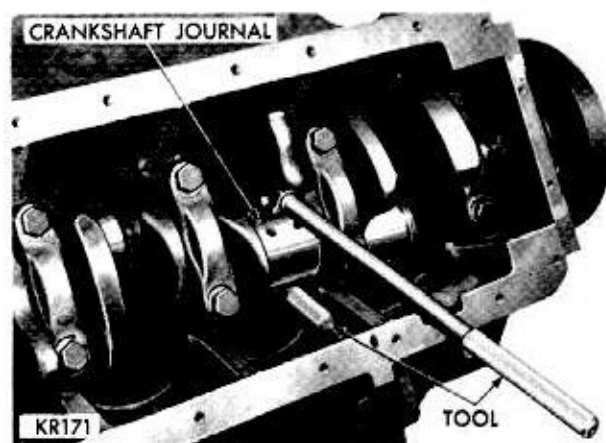

Fig. 45—Installing Connecting Rod
(1) Before installing pistons, rods, and rod assemblies in the bore, be sure that the compression ring gaps are staggered so that neither are in line with oil ring rail gaps.
(2) The oil ring expander ends should be positioned toward the outside of the "V" of the engine. The oil ring rail gaps should be positioned opposite each other and above the piston pin holes.
(3) Immerse piston head and rings in clean engine oil, slide ring compressor, Tool C-385, over the piston and tighten with special wrench (part of Tool C-385). Be sure position of rings does not change during this operation.
(4) Install connecting rod bolt protectors on rod bolts, the long protector should be installed on the numbered side of the connecting rod.
(5) Rotate crankshaft so that the connecting rod journal is on the center of the cylinder bore. Insert rod and piston into cylinder bore and guide rod over the crankshaft journal (Fig. 45).
(6) Tap piston down in cylinder bore, using handle of a hammer. At the same time, guide connecting rod into position on crankpin journal.
(7) The notch or groove on top of piston must be pointing toward front of engine and larger chamfer of